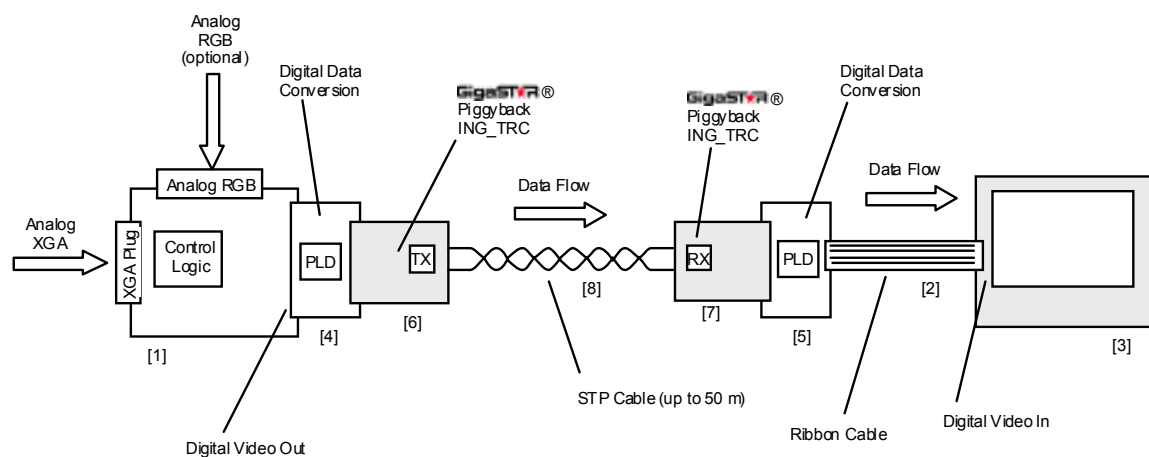

Figure 4: GigaSTaR Display Link with STP Copper Cable
A typical implementation of the GigaSTaR link in combination with an analog / digital converter is shown in Figures 4 and 5. By adopting the link to the digital output of the converter board, the signal can be transmitted over distances of 50 m with shielded twisted pairs (STP) of copper cable (4) or distances of up to 500 m with multimode fiber (5).
The application as described in Figure 4) is realized as “GigaSTaR Display Kit” (device title: ING_DK1) also shown on the cover page of this application note.